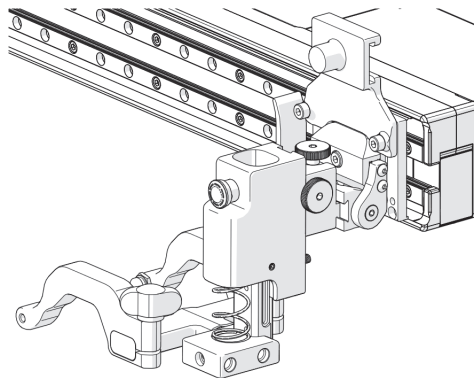

Figure 2-82 Lowered toward scan surface
2. Slowly lower the probe holder toward the scan surface (see Figure 2-82 on page 110).